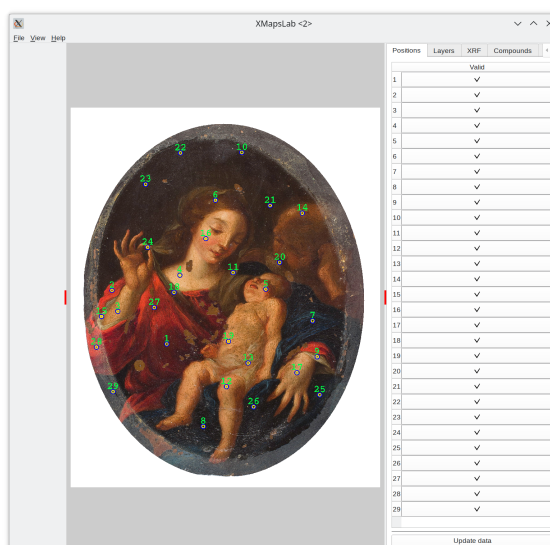

Figure 5.23: The positions are shown.
- **Show positions**: This option enables you to display the positions where the measurements were made. This helps visualize the spatial distribution of measurements (**Figure 5.23**).